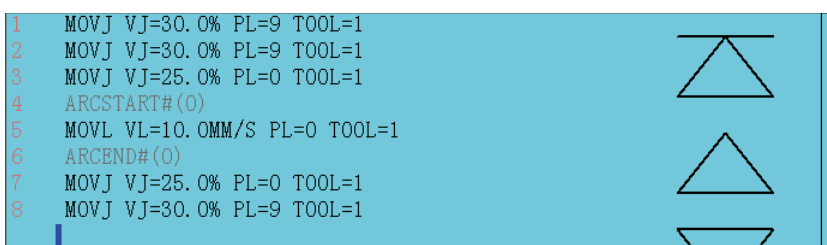

Fig.7.14
6. Repeat the above similar steps. Input all program points and instructions, as shown in Fig.7.14.